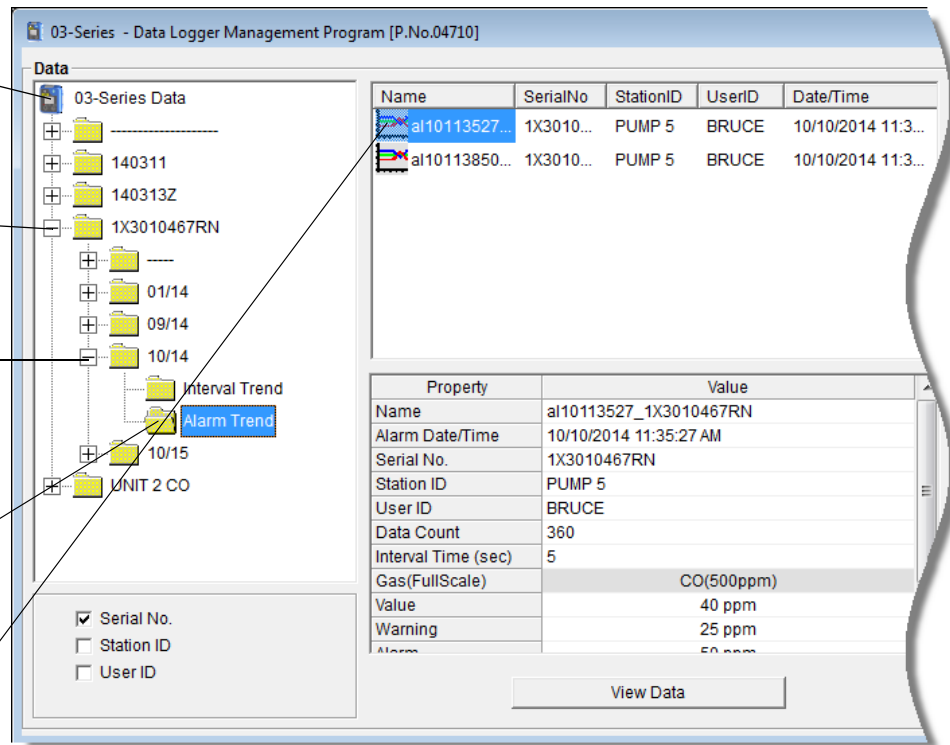

Figure 40: Data Window - Selecting Alarm Trend Data Files
- If you click the **Summary** button, the data window will split into two frames, one above the other, with the data table in the lower frame and the summary information shown in the upper frame. The summary information is the same as the information shown in the lower right frame in Figure 40.
- If you click the **Summary** button, the data window will split into two frames, one above the other, with the graph in the lower frame and the summary information shown in the upper frame. The summary information is the same as the information shown in the lower right frame in Figure 40. To return to the one frame format, click **Summary** again.